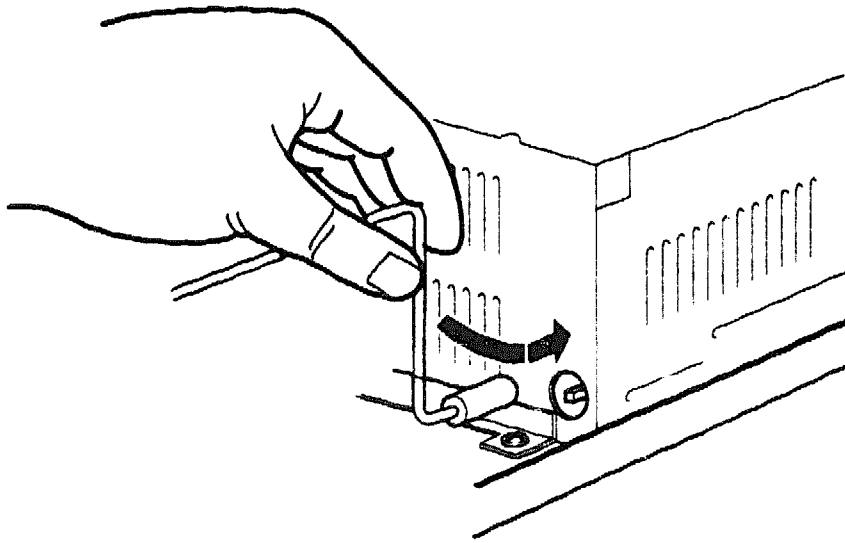

Figure 3-43 - Joining the On/Off Button
3. Join the on/off button to the PSU (Figure 3-43).